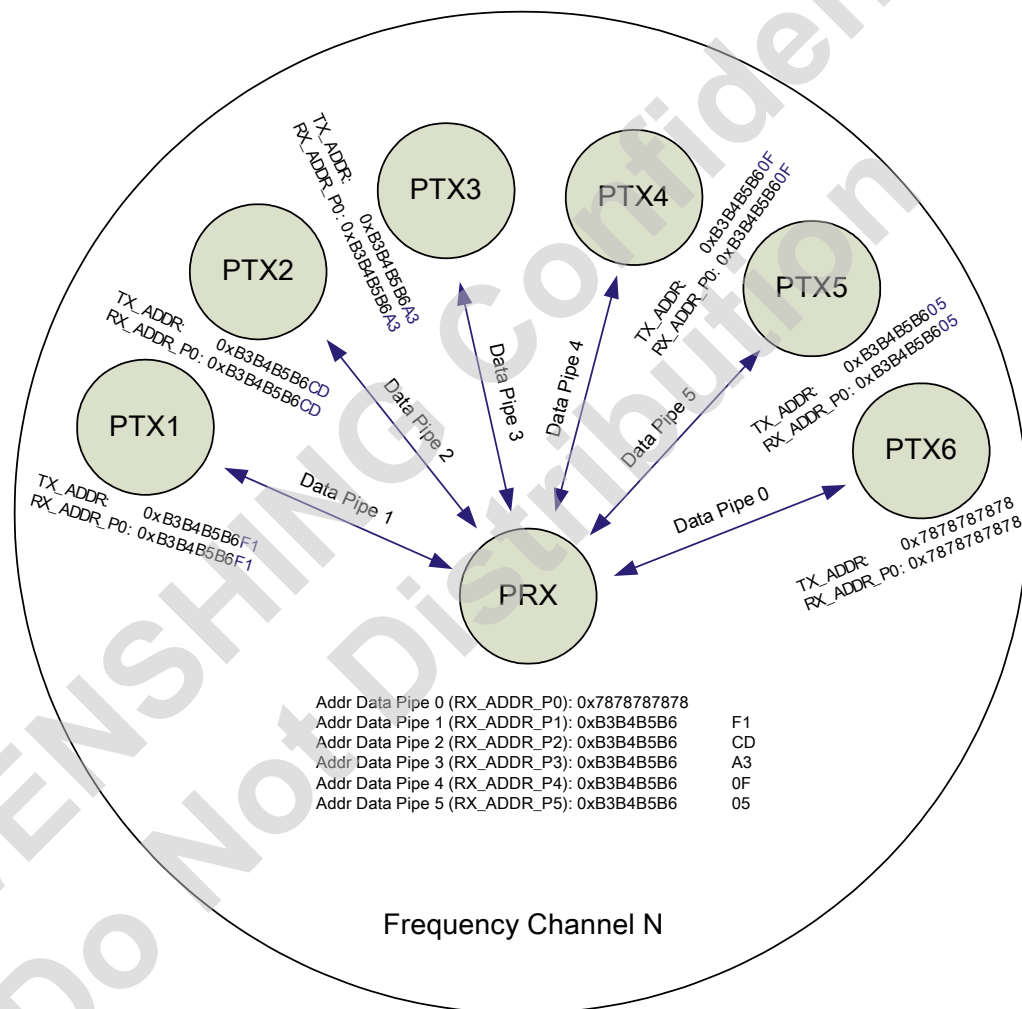

Figure 1
2. When the application MCU has data to transmit, the address for the receiving node (TX\_ADDR) and payload data (TX\_PLD) has to be clocked into nRF24L01 through the SPI. The width of TXpayload is counted from number of bytes written into the TX FIFO from the MCU. TX\_PLD must be written continuously while holding CSN low. TX\_ADDR does not have to be rewritten if it is unchanged from last transmit. If the PTX device shall receive acknowledge, data pipe 0 has to be configured to receive the ACK packet. The RX address for data pipe 0 (RX\_ADDR\_P0) has to be equal to the TX address (TX\_ADDR) in the PTX device. For the example in Figure 1